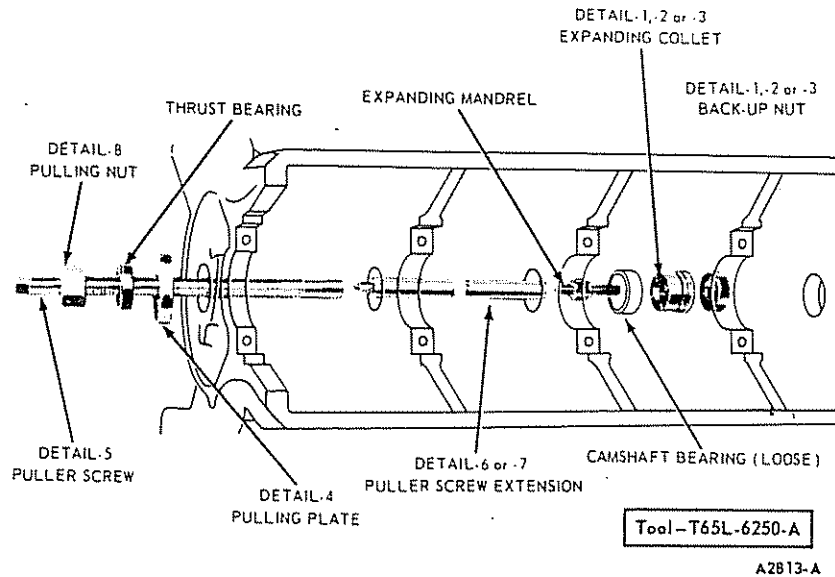
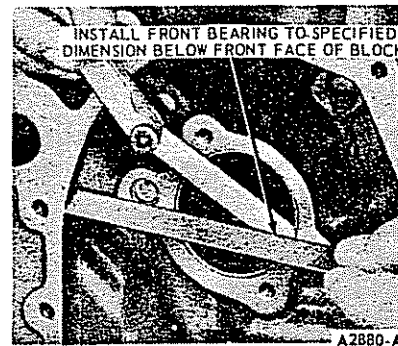

FIG. 67 Camshaft Bearing Replacement
FIG. 68 Camshaft Front Bearing Replacement
2. Remove the camshaft rear bearing bore plug. Remove camshaft bearings (Figure 67).
2. Assemble the puller screw and extension (if necessary) as shown in Figure 67 and install on expanding mandrel. Wrap a cloth around threads of the puller screw to protect the front bearing or journal. Tighten pulling nut against the thrust bearing and pulling plate to remove camshaft bearing. Hold a wrench on the end of puller screw to prevent it from turning.
4. Position new bearings at bearing bores, and press in place with the tool shown in Figure 67. Be sure to center the pulling plate and puller screw to avoid bearing damage. **Failure to use correct expanding collet can cause severe bearing damage.** Align oil holes in bearings with oil holes in cylinder block before pressing them into block. Be sure front bearing is installed specified distance below front face of cylinder block (Figure 68).